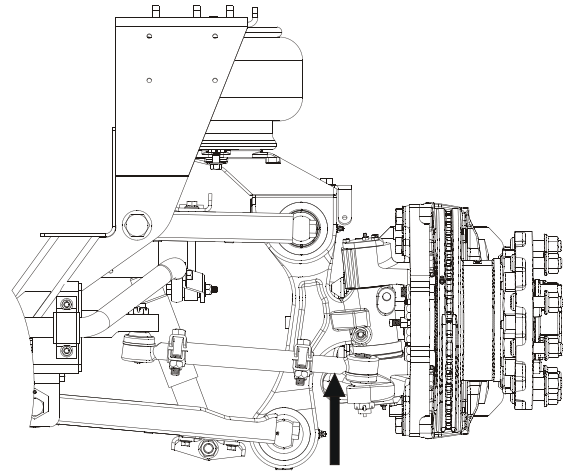

Figure 6 - Tie Rod Inspecting the ABS Sensor and Tone Ring
1. With the engine on, lightly rock the steering wheel and have an assistant observe any looseness in the two mating tapers or any movement of the stud nut at both ends of the tie rod. (Figure 6). If looseness is found in either place go to step 2, otherwise skip to step 3.
3. With the engine off and the wheels steered straight ahead, grab the tie rod near its end and try to move the socket in a direction parallel to the ball stud axis. (Figure 6). Be sure to only apply hand pressure to the tie rod.
6. Check tie rod clamp orientation (Figure 6)